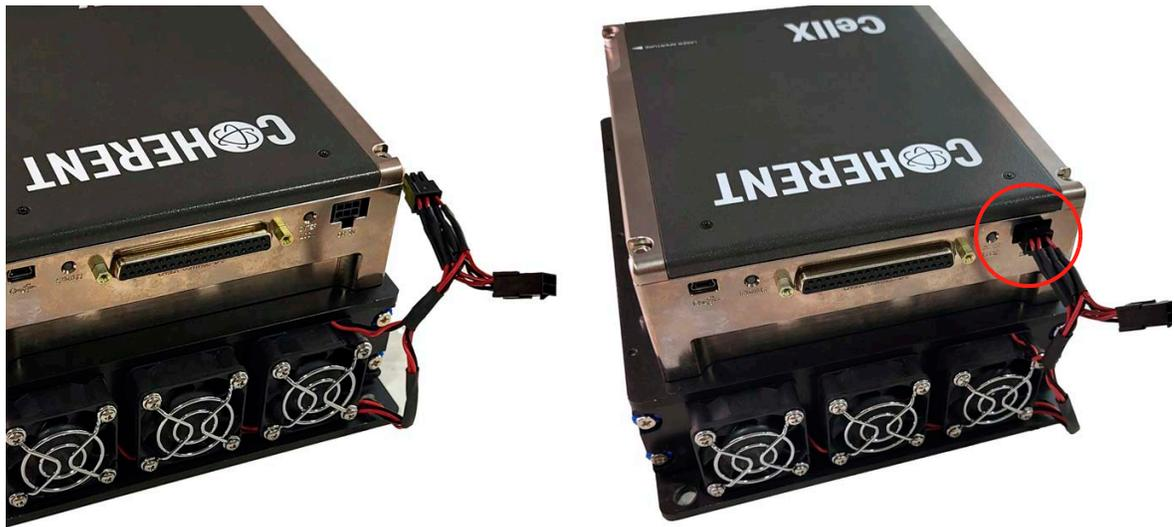

Figure 4-7. Connect Power Cable - CellX to Heat Sink
10. Connect power from the heat sink to the CellX unit. Attach the connector, as shown in Figure 4-7.